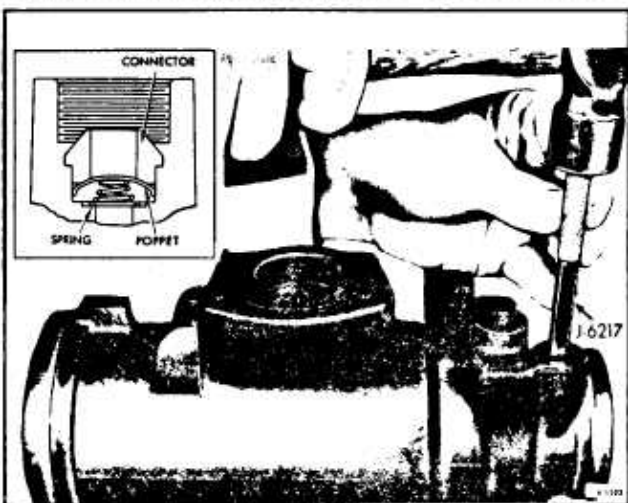

Figure 41—Installing New Connector
8. Install new check valve spring in pressure port with large end down. Make sure spring is seated in counterbore in pressure port (figure 41).
port. Drive connector seats in place using Valve Connector Seat Installer, J-6217 (figure 41).